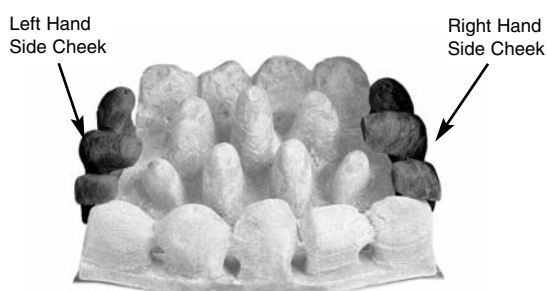

Fig. 25
4. Place the side cheeks into position, making sure they are positioned either side of the fuel bed and the overhang is at the front. The outside edge should be in contact with the radiant box ceramic liner. Ensure that the lower part of the side cheeks sit on the front coal and are in front of the rear coal (Fig. 25).